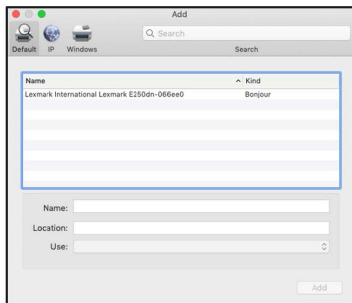

Figure 20
3. The **Add** screen will appear. From the **Add** screen, under the **Default** tab, select the **Printer** and select the **Add** button. (Figure 20)